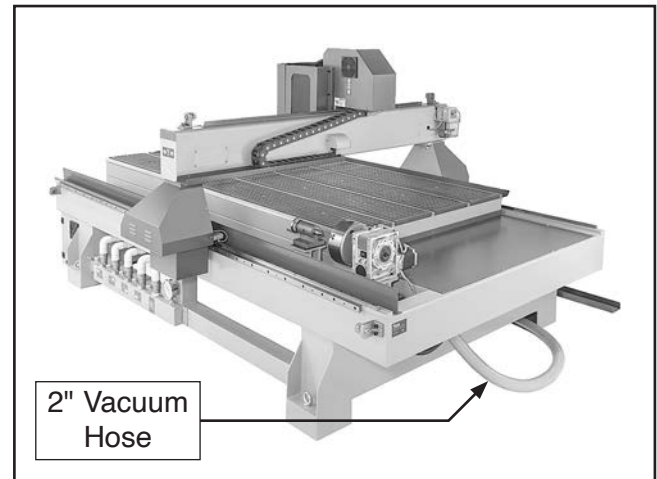

Figure 60. Example of vacuum hose location (under table).
4. Connect 2" vacuum hose from machine (see **Figure 60**) to vacuum filter inlet port (see **Figure 61**) and secure with 2" hose clamp.